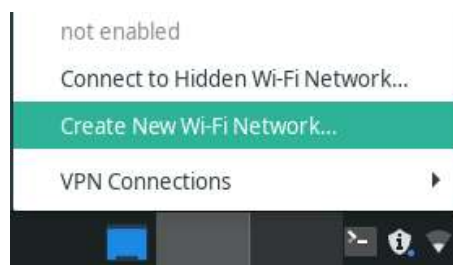

Figure 32: Retrieve Wi-Fi Hotspot
- Close the current window and finally left click on the connection logo, *Create New Wi-Fi Network* (see figure 32) and select your connection in the drop-down list to enable it.